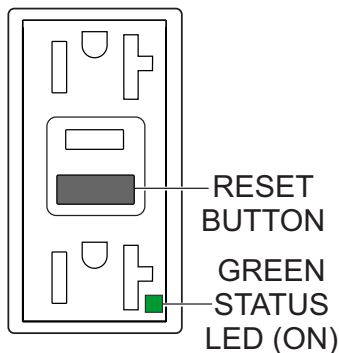

Figure 54. GFCI Receptacle (ON/Restore)
5. Press the **RESET button** (Figure 54) to restore power to the GFCI receptacle and verify that the status LED is **ON (GREEN)**.